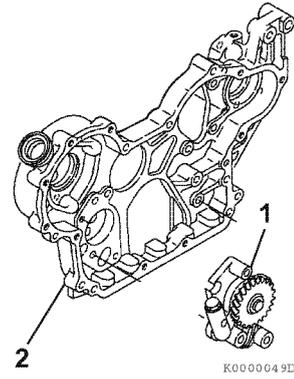

Figure 9-19
3. Reinstall the oil pump assembly (1, **Figure 9-19**) into the gear case housing (2, **Figure 9-19**). Tighten the bolts to specified torque.